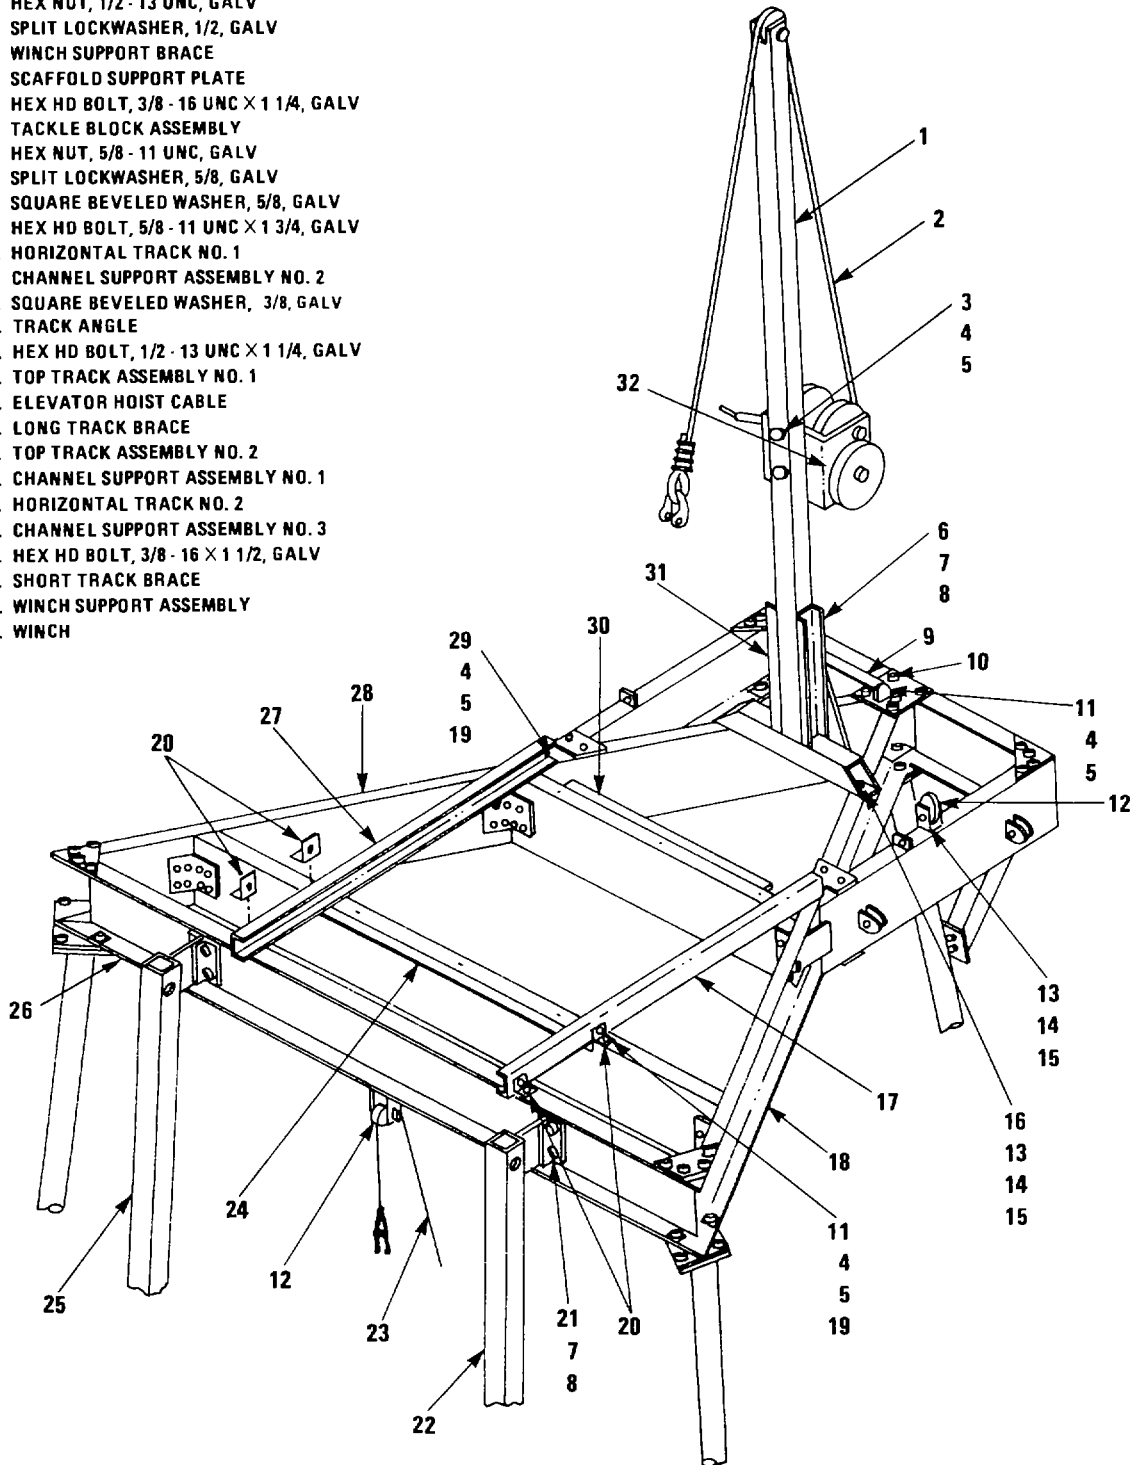

Figure 2-11. Tower Adapter with Horizontal Tracks and Scaffold Winch Assembly
(12) Attach two channel support angles (20) to channel support assemblies Nos. 2 (21) and 3 (30) where long track brace (29) will be attached and secure with eight bolts (17), nuts (9), and lockwashers (10).
(13) Attach long track brace (29) to channel support assemblies Nos. 2 (21) and 3 (30) and channel support angles (20).
(14) Secure long track brace (29) to channel support angles (20) by eight bolts (17), nuts (9), and lockwashers (10).
b. *Horizontal Tracks.* Refer to figure 2-11.
(1) Attach two track angles (20) to channel support assembly No. 1 (26) and two track angles (20) to long track brace (24). Secure with four bolts (11), nuts (4), lockwashers (5), and square beveled washers (19).
(2) Attach horizontal tracks Nos. 1 (17) and 2 (27) to track angles (20) and secure with four bolts (11), nuts (4), lockwashers (5), and square beveled washers (19).
(3) Attach four bolts (29), nuts (4), lockwashers (5), and square beveled washers (19) to secure horizontal tracks Nos. 1 (17) and 2 (27) to short track brace (30) and channel support assemblies Nos. 2 (18) and 3 (28).
*c. Installation of Scaffold Winch Assembly.* The scaffold winch assembly is installed if antenna is to be attached. Refer to figure 2-11.
(1) Attach winch support assembly (31) to channel support assemblies Nos. 2 (18) and 3 (28) and secure with two bolts (16), nuts (13), lockwashers (14), and square beveled washers (15).
(2) Attach winch support (1) to winch support assembly (31). Secure with two bolts (6), nuts (7), and lockwashers (8).
(3) Attach winch (32) to winch support (1). Secure with two bolts (3), nuts (4), and lockwashers (5).
(4) Attach winch support brace (9) between winch support assembly (31) and scaffold support plate (10). Secure with two bolts (11), nuts (4), and lockwashers (5).
*e. Final Steps.* Refer to figure 2-11.
(1) If vertical elevator tracks have been installed, attach top track assemblies (22 and 25) to channel support assembly No. 1 (26). Secure with eight bolts (21), nuts (7), and lockwashers (8).
(2) Check and tighten all attaching hardware that has been installed in assembling and attaching tower adapter, including attaching hardware for scaffold winch assembly and for tower adapter grating attachment.